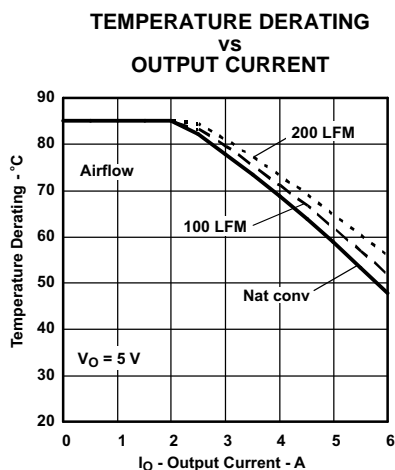
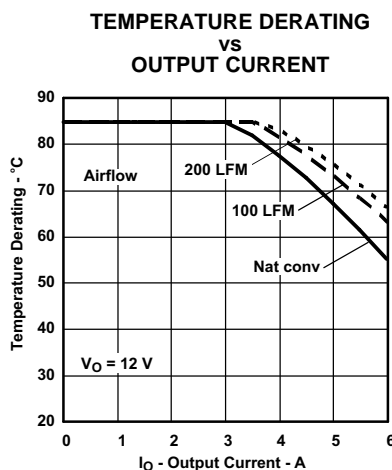

Figure 9.
Figure 10.
- (2) The temperature derating curves represent the conditions at which internal components are at or below the manufacturer's maximum operating temperatures. Derating limits apply to modules soldered directly to a 100 mm x 100 mm double-sided PCB with 2 oz. copper. Applies to Figure 9 and Figure 10.